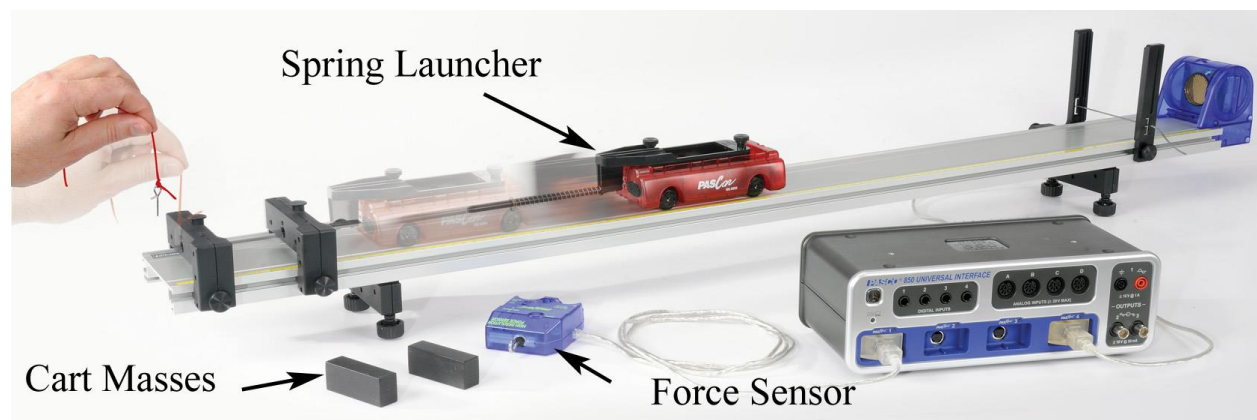
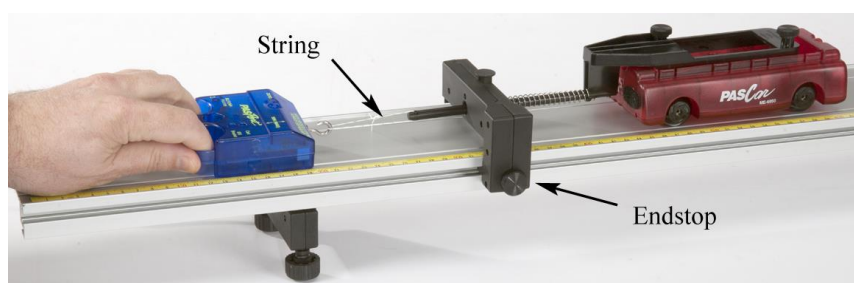

Figure 1: When the pin is pulled, the potential energy stored in the spring is released.
Figure 4: Finding the spring constant
- Figure 1 shows two endstops in use for later in the experiment. For now, you will only use one endstop as shown in Figure 4. Push the rod from the spring launcher through the hole in the endstop and tie a loop of string through the small hole in the end of the rod.
- Plug the Force Sensor into the interface. With the sensor flat on the surface of the track, press the zero button to tare the sensor. Hook it onto the loop of string as shown in Figure 4.
26. Looking at a graph of velocity vs. time, click on Record. Use the string to jerk the pin loose, and release the cart. You must pull upwards on the pin as quickly as you can. See Figure 1. There is a built-in stop condition that should automatically halt recording when the cart reaches the far end. Label the run "KE 1".